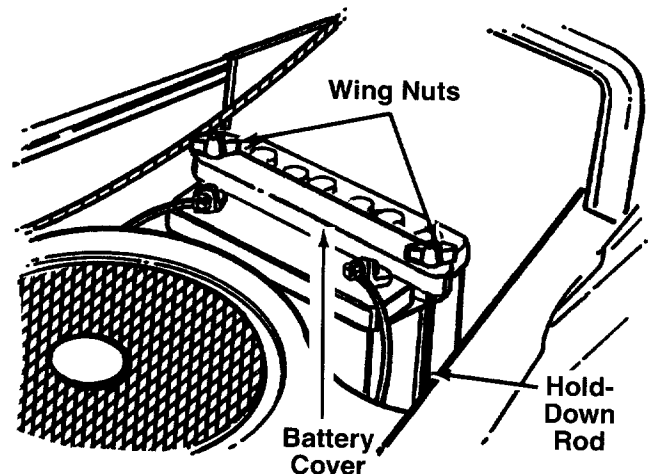

FIGURE 12.
- Lift the hood of the tractor. Remove the wing nuts from the hold-down rods which secure the battery cover to the battery. See figure 12.
- Place the battery cover in position over the hold-down rods. Secure with wing nuts. See figure 12.